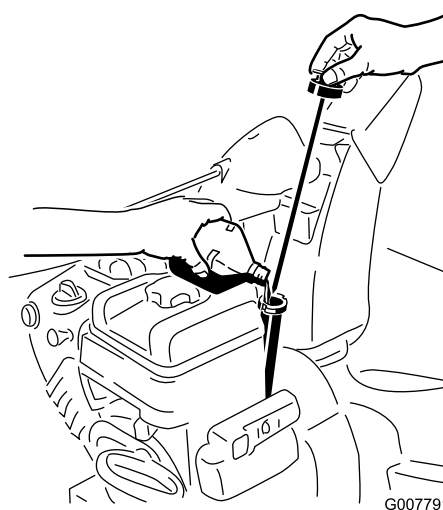

Figure 40
2. Remove the dipstick and check the oil level (Figure 40). If the oil level is below the Add mark on the dipstick, add oil. Refer to Filling the Engine with Oil.